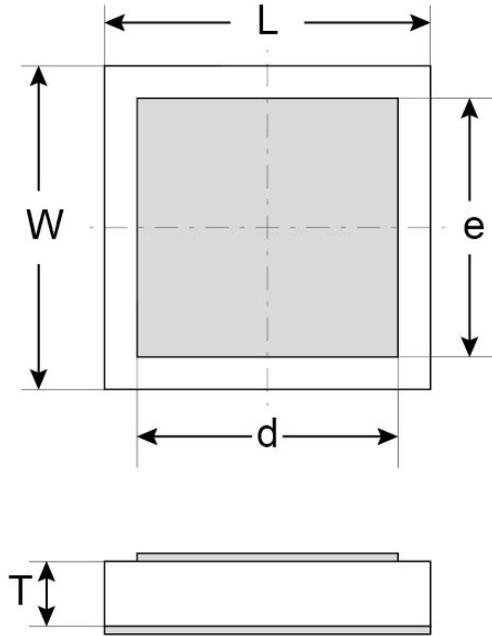

Figure 9 - Package outline drawing
- (1) Other film frame carrier are possible on request
- (2) Au = TiWAu (0.3µm) / Au (3µm)
- (3) Refer to Figure 9
- (4) missing capacitors can reach 0.5%